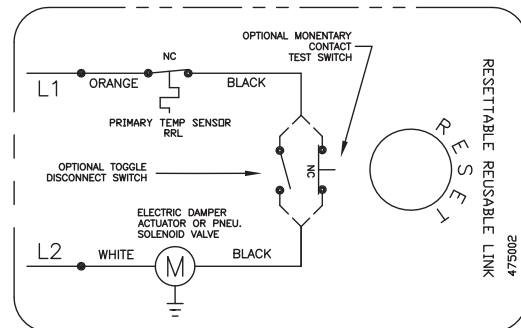

Figure 9
**RRL2** - Dampers will be supplied with a thermostat-type temperature response device, as a standard. The device is a RRL2 (resettable link device), which only incorporates one thermostat and therefore the damper remains closed as soon as its sensor temperature is reached. The RRL2 does not contain blade indication switches. Refer to **Figure 9** for wiring of the RRL2 thermostat.